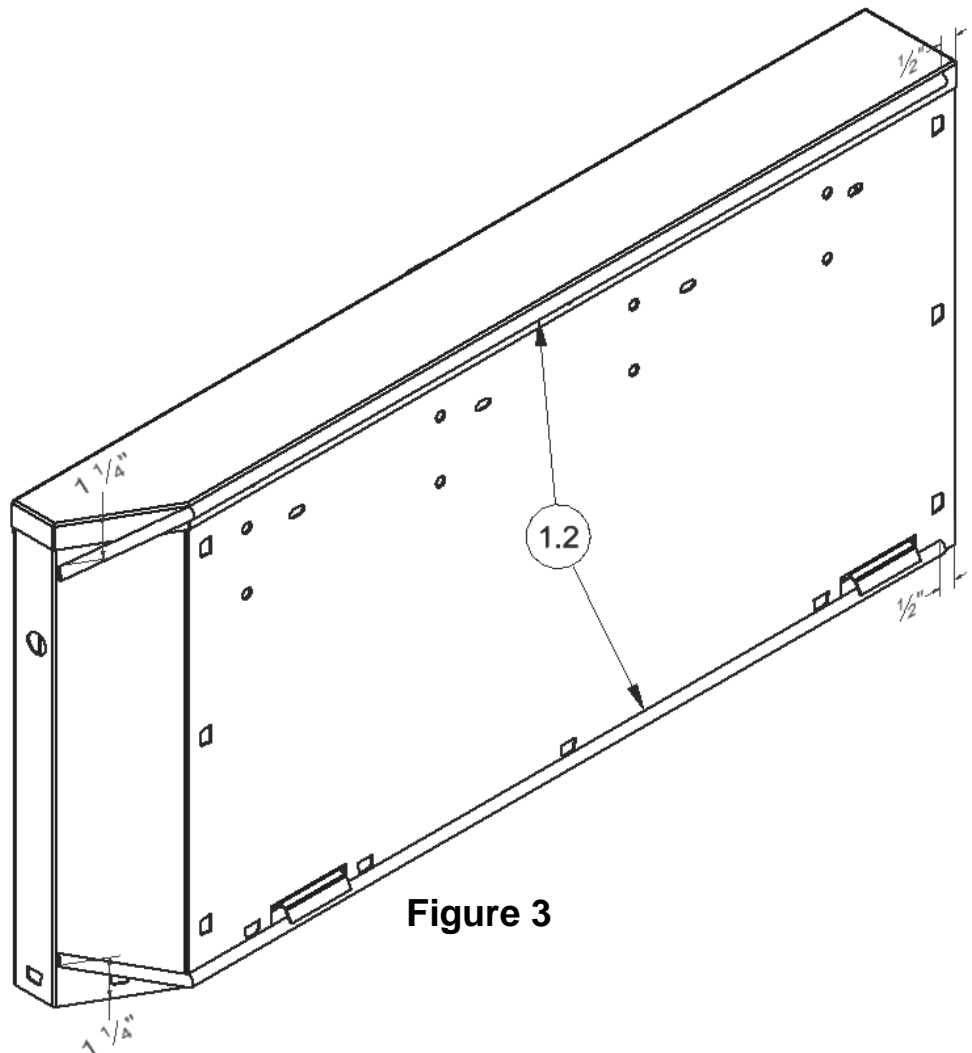

**Figure 2**
3. Install (4) #1.1 Plastic Inserts(found in the key bag) into the upper-right most holes, as shown in **Figure 2**.